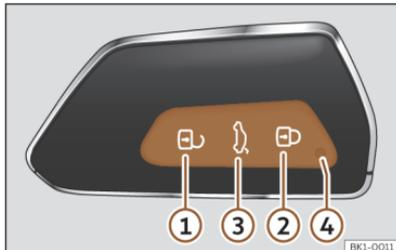

Fig. 78 Vehicle key
When a button is pressed briefly on the vehicle key, the control lamp ④ >>> Fig. 78 flashes once briefly, but if pressed for a long period of time, it will flash several times, for example, in the convenience opening.